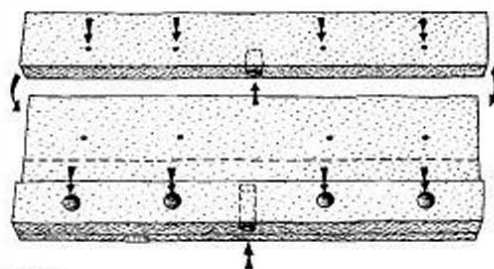

FIGURE 12-9
- 1** Mount the backing plate on the base, position the two slide rails, and set the rack in place. When you are sure all is correct, drill and dowel (Fig 12-9).